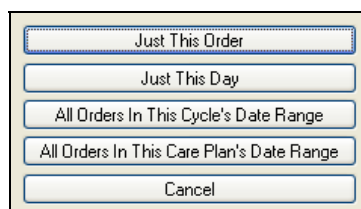

Figure 9: Approve Menu
2. Click **Approve** to open the Approve menu shown in Figure 9.